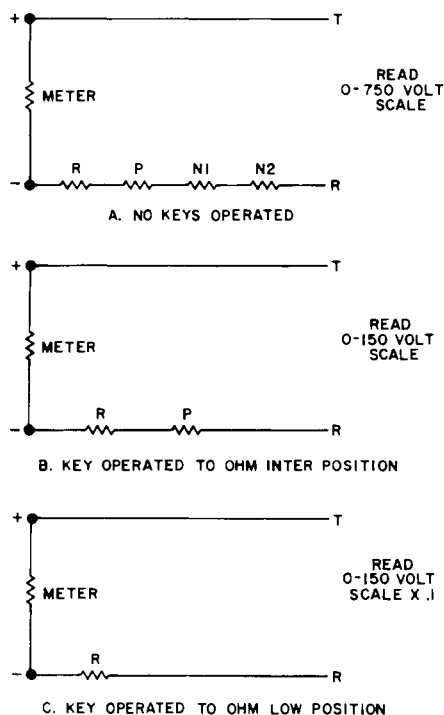

Figure 11. Loop test - no battery.
5.2.2 Loop test with no battery on the meter (figure 11).